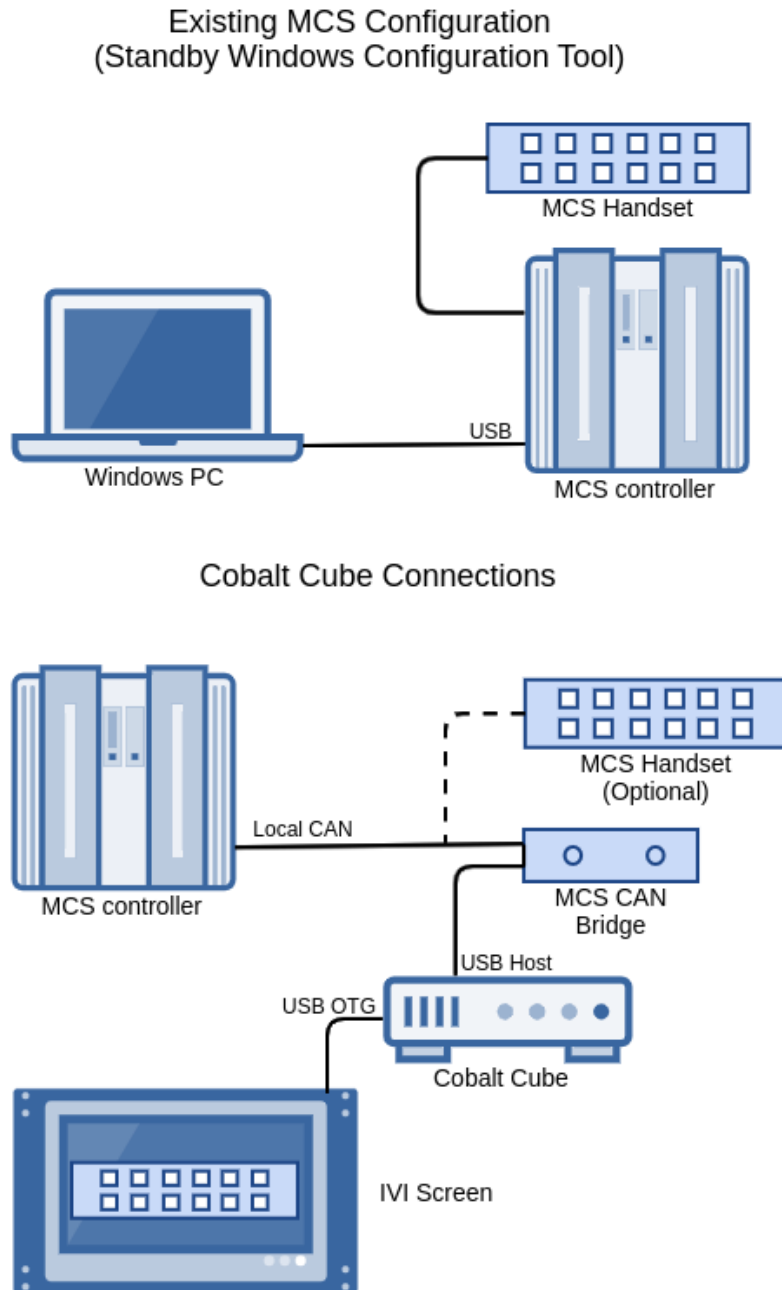

Figure 38: MCS Control connectivity diagram
The Cobalt Cube works in harmony with the existing MCS configuration tool from Standby® (see Figure 38). Each MCS is configured as before to have the desired handsets, inputs and outputs, via the Windows configuration tool provided by Standby®. The Cobalt Cube MCS Control application works by reflecting the existing handset configuration of each MCS. On application start, the software reads the handset configuration, via the USB-serial interface, and reflects the instantaneous state of each handset button and shows this on the equivalent User Interface (UI). This button state includes the button colour set for its on and off states and also if it is currently illuminated.
Figure 38 shows the connections between the Cobalt Cube, MCS components, and IVI system screen.